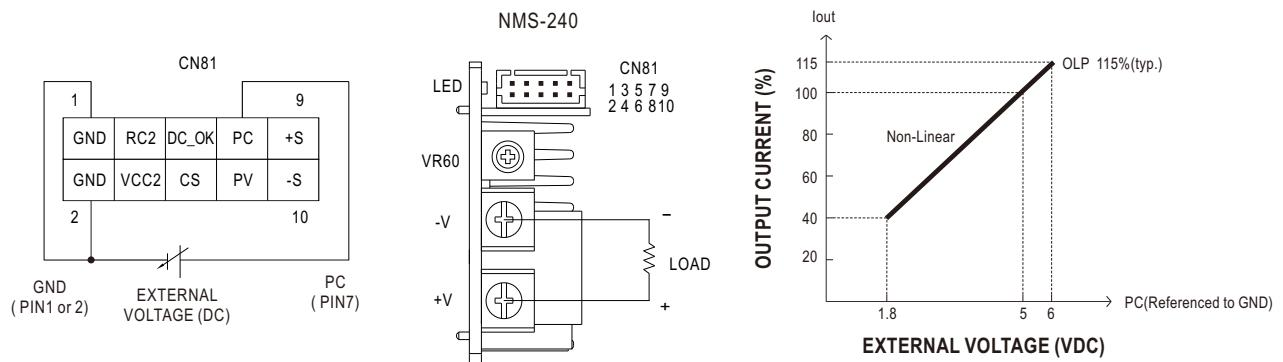

Figure 5-2
5.3.2 Constant Current Level Programming (PC)
- ◎ The constant current level can be trimmed to 40~100% of the rated current by applying external DC voltage. Connection diagram and relationship curve are shown in Figure 5-2.